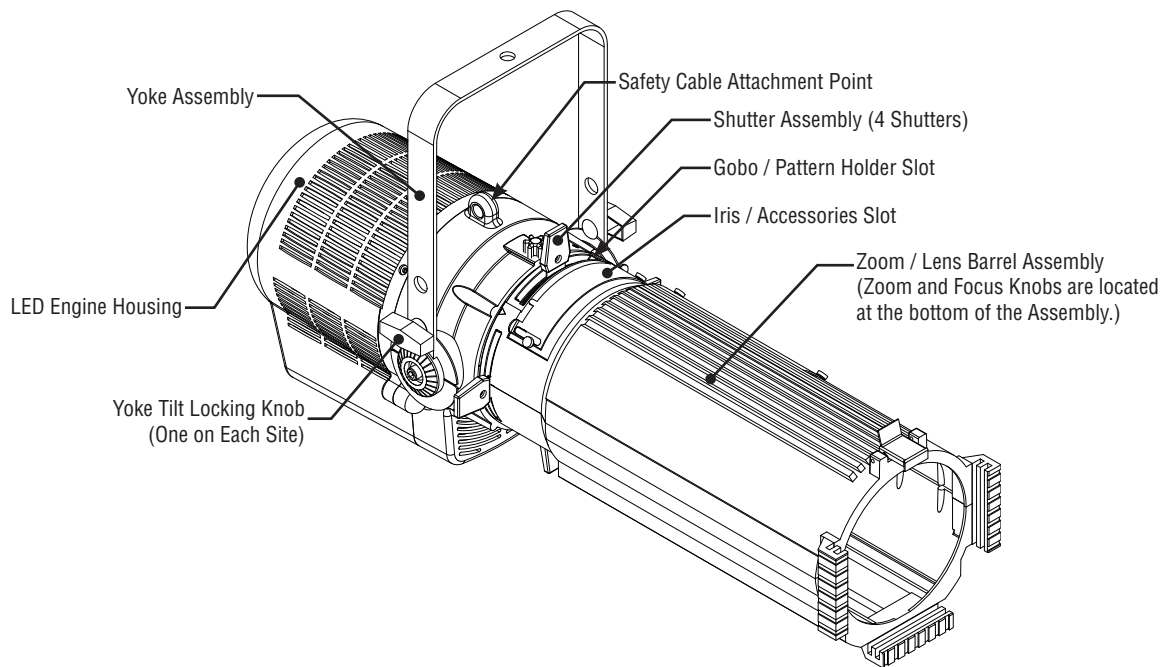

Figure 2: Zoomable Focus Model Features
Figure 2 shows the basic features of Zoomable Focus Models.
1. With luminaire on a flat, sturdy surface, position yoke assembly for easy access as illustrated in **Figure 2**.